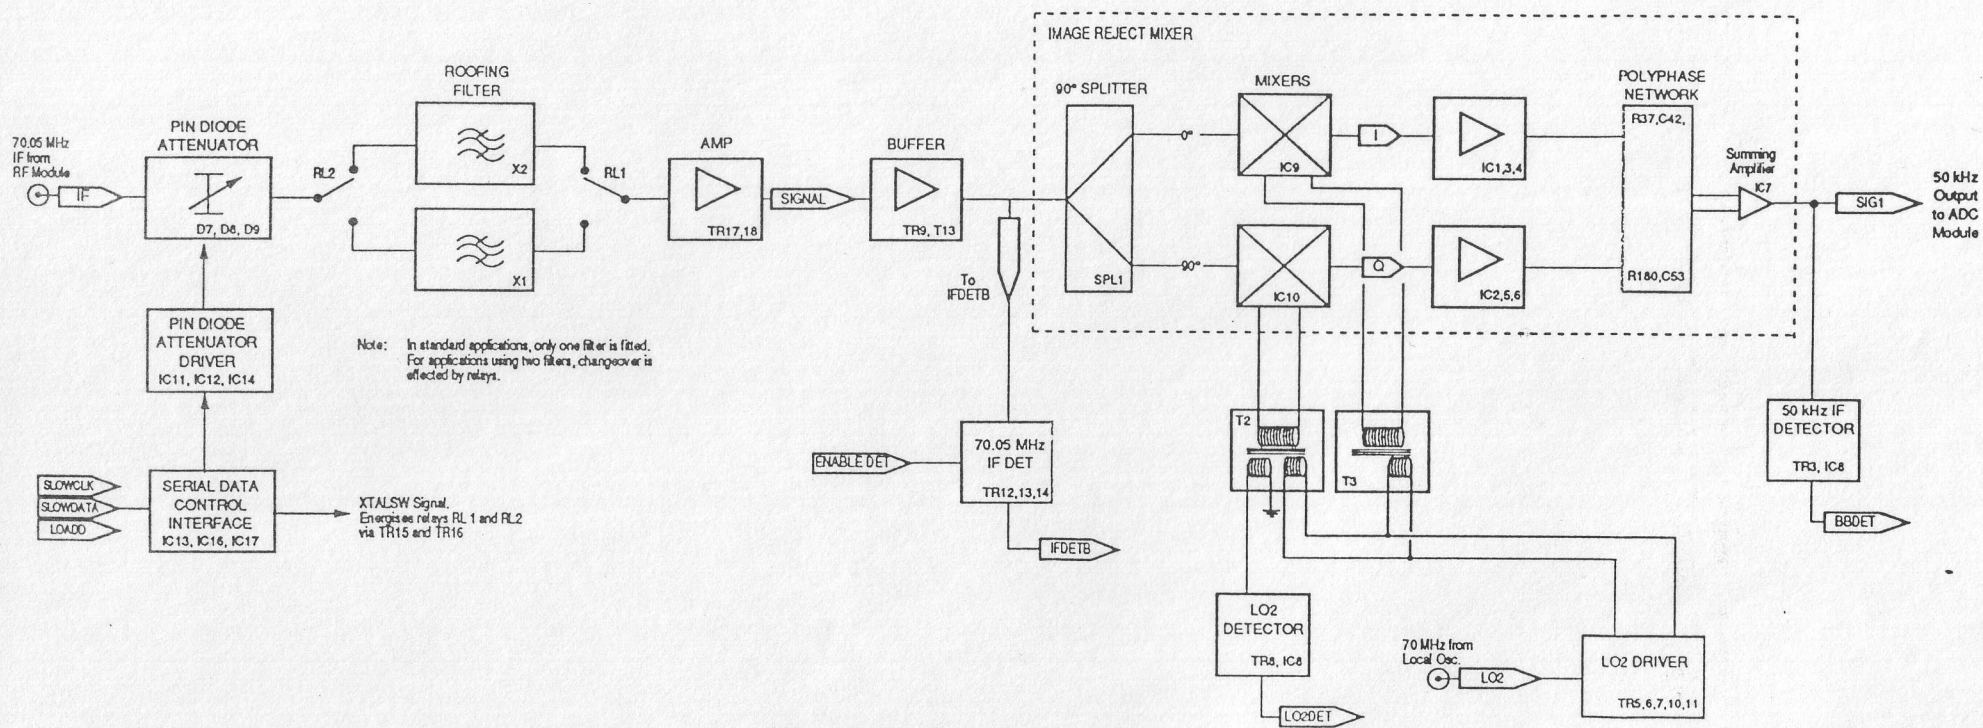

Figure 1 - IF Module Simplified Block Diagram
- Figure 1 IF Module Simplified Block Diagram